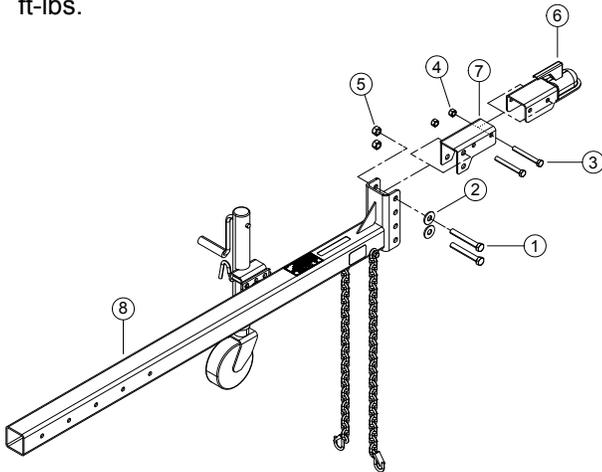

Figure 2.1, Non-CE Compliant Hitch Assembly
NON CE COMPLIANT (FIGURE 2.1)
1. Place hitch pole assembly (8) into the frame, align mounting holes to desired length and secure using two 1/2" x 4-1/2" bolts, washers and nuts (hardware not shown in Figure 2.1). Torque to 75 ft-lbs.
2. Attach coupler mount (7) to hitch pole using two 5/8" x 4 1/2" bolts (1), washers (2) and centerlock nuts(5). Torque to 150 ft-lbs.
3. Attach 2" coupler (6) to coupler mount using two 1/2 x 4" bolts (3) and centerlock nuts (4). Torque to 75 ft-lbs.